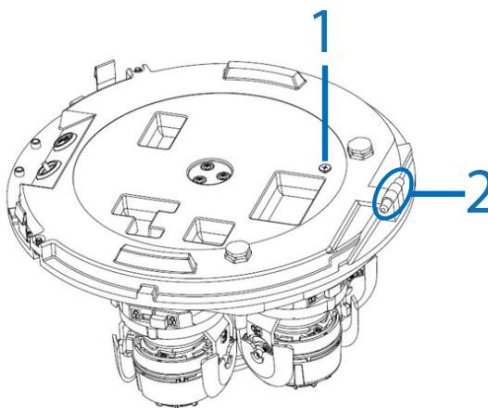
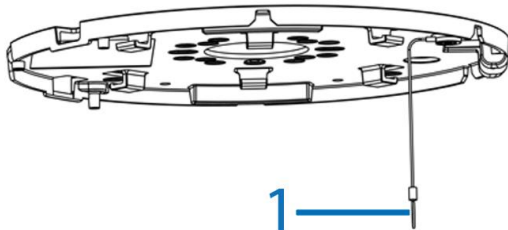
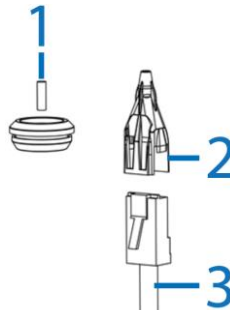
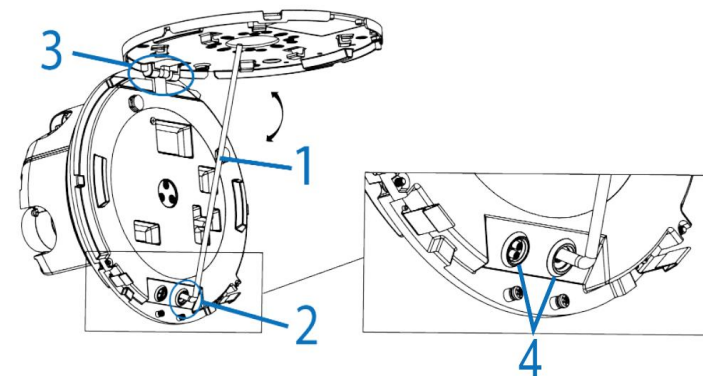

Figure 6
Figure 5
Figure 7
Figure 8
8. Insert the 'hinge pins' (2) (Figure 6) on the camera module lens into the 'hinge knuckle' on the mounting plate. '1' in Figure 8 identifies how the camera lens module and mounting plate attach together.
10. Insert the RJ-45 cable (3) (Figure 7) into the insert tool (2) (Figure 7) remove the rubber grommet (2) (Figure 8) from the camera lens module.
11. Pierce the rubber grommet (1) (Figure 7) by passing the insert tool and cable through the center of the rubber grommet.
7. Hold the camera lens module up to the mounting plate and insert the 'loop' on the safety lanyard (1) (Figure 5) that is attached to the mounting plate to the screw (1) (Figure 6) on the camera lens module.
12. Pass the insert tool and cable (2) (Figure 8) through the rubber grommet hole (3) (Figure 8) on the camera lens module.
WARNING: Ensure that both rubber grommets (4) (Figure 8) are securely inserted into the camera lens module before operation.
- Ensure that **both** rubber grommets (4) (Figure 8) are securely inserted into the camera lens module before operation.